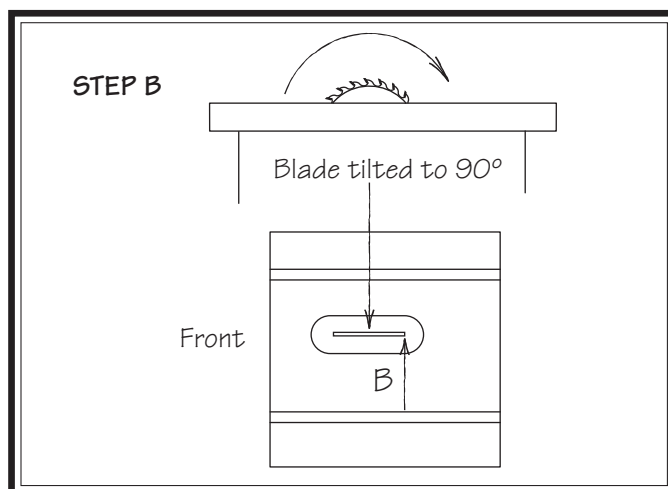

Figure 124. Measuring distance from miter slot to carbide tip on opposite side of table insert.
5. Slide adjustable square down to other end of table insert and compare distance from marked blade tooth to end of adjustable square, as shown in **Figure 124**.